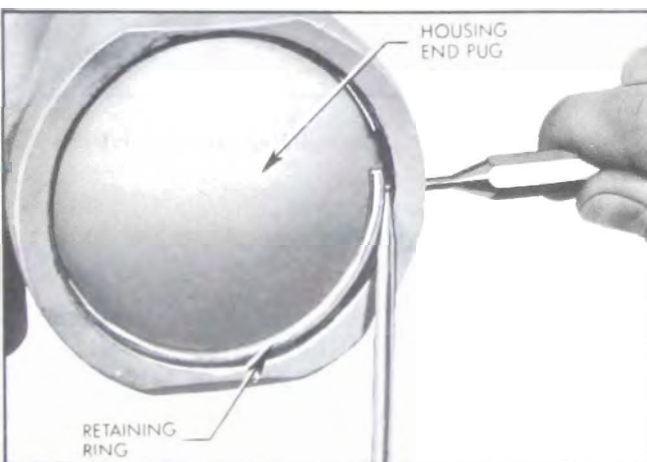

Figure 8-61—Removing Housing End Plug Retaining Ring
3. Rotate housing end plug retainer ring so that one end of ring is over hole in gear housing. Spring one end of ring with punch to allow screw driver to be inserted to lift ring out. See Figure 8-61.